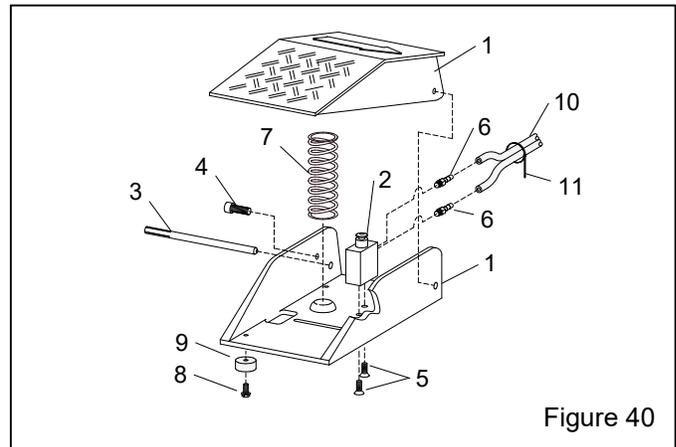

Figure 40
9.7 Foot-Pedal Assembly – Figure 40